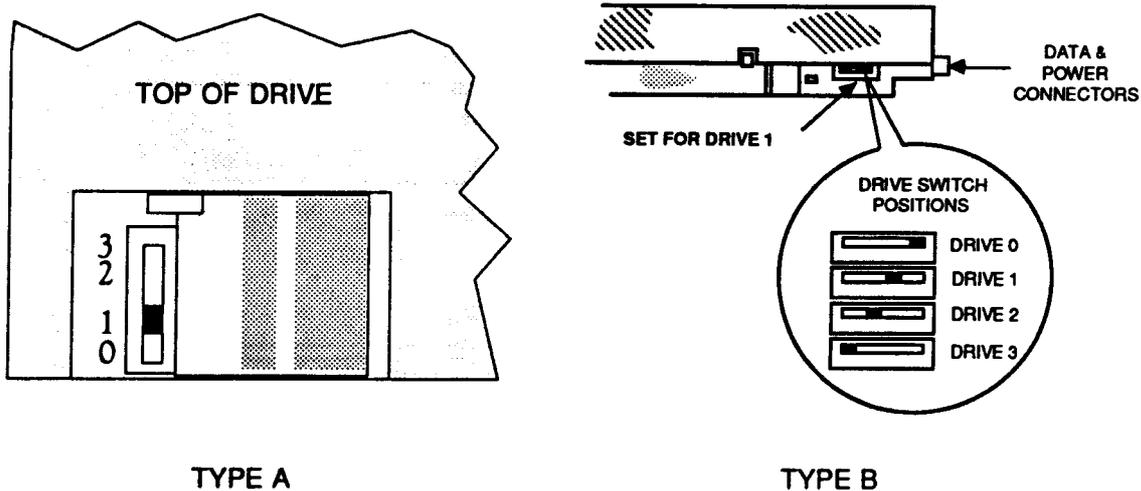

Fig. 4 : Configuring the new drive as drive 1
- Before fitting the new drive, it must be configured as drive 1. To do this, set the small slide switch on the drive to position 1 (see Fig. 4 below). The location of the slide switch will depend on the type of drive supplied with your particular kit —there are two possibilities: